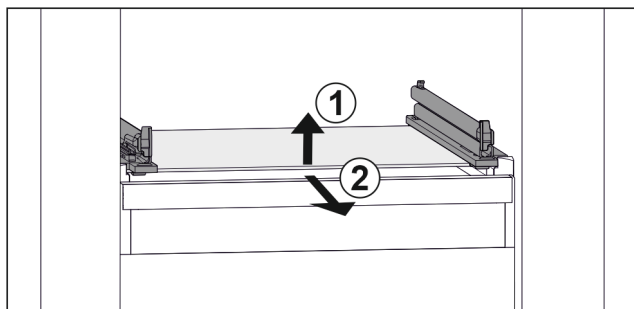

Fig. 105 Example illustration of glass shelf
- ▶ Lift glass shelf at the front. Fig. 105 (1)
- ▶ Remove glass shelf to the front. Fig. 105 (2)